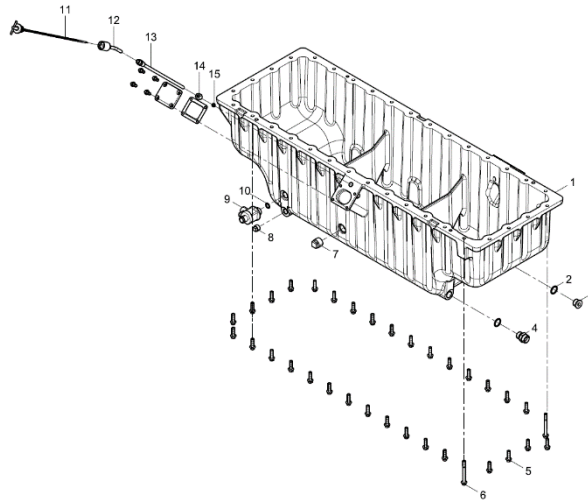

Figure 83. Oil Pan Assembly
1. Remove the Oil dipstick (Figure 83, Items 11, 12 & 13).
2. With a crane or any hosting assistance, remove the thirty-four bolts (Figure 83, Items 5 & 6).